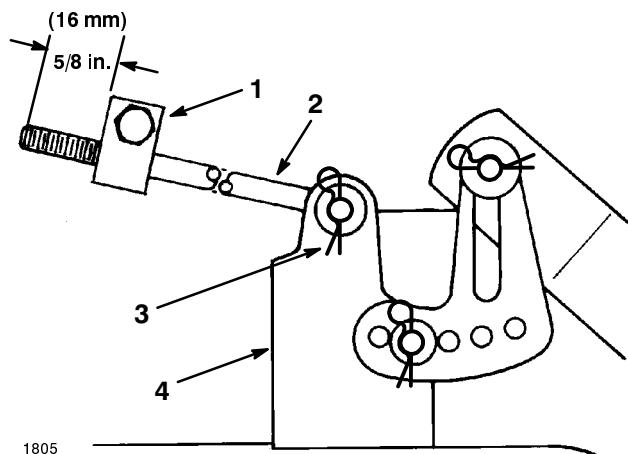

Figure 51
5. Measure the length of the rod extending out of the front of the adjusting block on the sides of the chassis (Fig. 51). If the rod length is not 5/8 in. (16 mm), remove the hairpin cotter and washer from the end of the rod (Fig. 51) and turn the rod until the 5/8 in. (16 mm) dimension is obtained. Then install the end of the rod into the hole in the mower mount and secure it with the washer and hairpin cotter. Repeat this procedure on the opposite side of the mower.